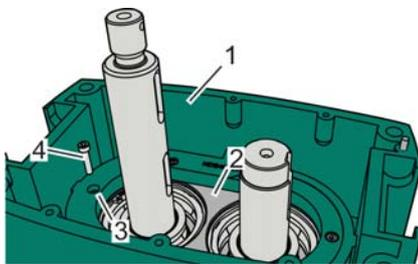

Fig. 101: Releasing the upper bearing housing from the gearbox housing, example
16. ➔ Unscrew the attachment bolt (Fig. 101/4) from the borehole (Fig. 101/3) of the gearbox housing (Fig. 101/1) and place to the side.